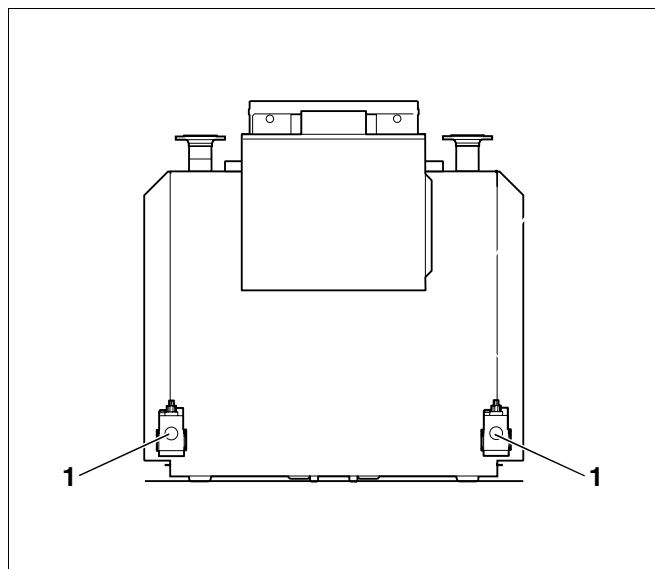

Fig. 3 Making the gas connection (viewed from the back)
- Connect the gas pipe without stress to the gas connector (Fig. 3, **Item 1**).